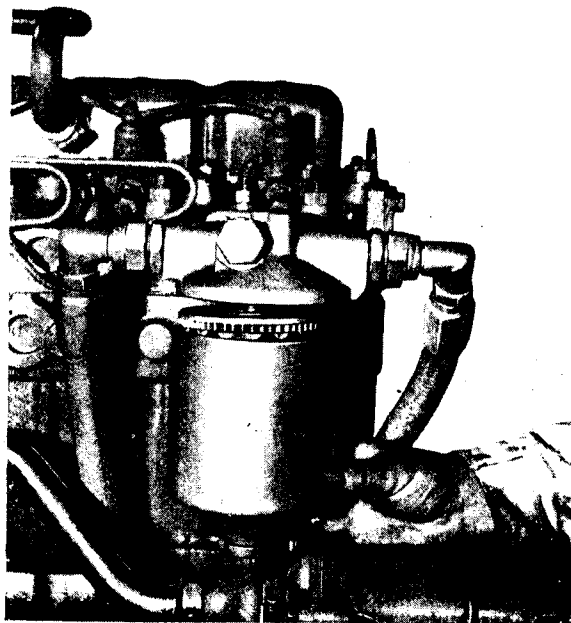

Fig. K.6.
2. Lower filter bowl clear (see Fig. K.6).